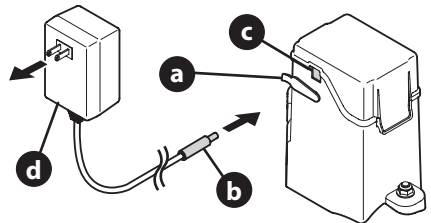

Figure 44
1. Open the charging port cover (a) and plug the charger lead (b) into the charging port (c) (Figure 44).
2. Plug the battery charger (d) into a standard 120V household outlet (Figure 44).